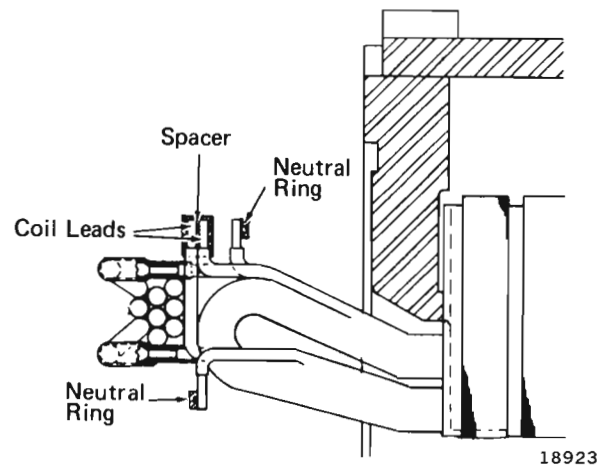

Fig. 4 - Wiring Application
15. Align series leads of coils previously opened and slide 2" insulation over coil leads. Insert spacer, fluxed with "Handy Flux," or equivalent, between the leads, Fig. 4, and braze the two leads together. Protect the insulation on the leads with a suitable heat sink.